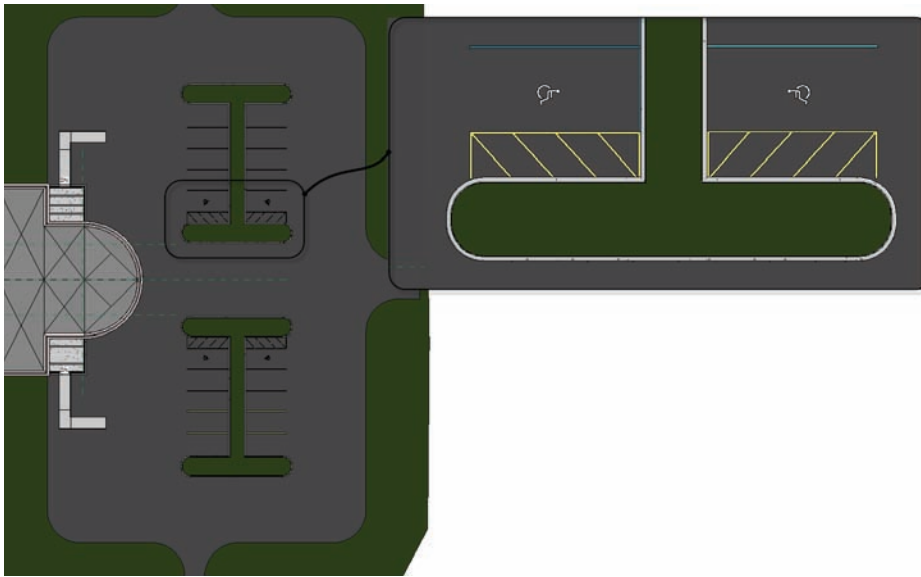

FIGURE 18.17 The parking lot
8. Select Parking Symbol - ADA, and place it as shown in Figure 18.17.
10. Mirror the entire island and the parking spaces about the building's center reference plane. Your parking lot is now a parking lot and should resemble Figure 18.17.